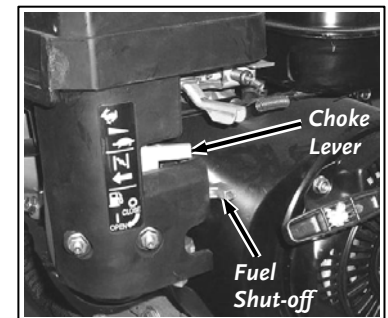

Figure 11
2. Make sure the Fuel Shut-off is in the “OPEN” position (**Figure 11**).
1. Make sure the Fuel Shut-off is in the “OPEN” position (**Figure 11**).